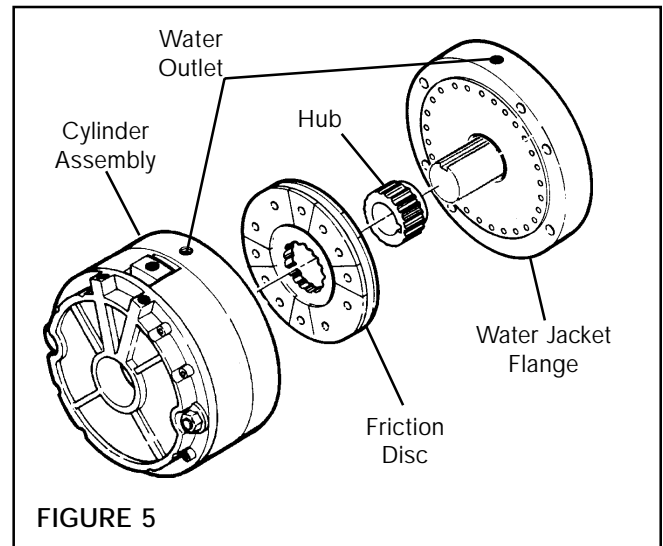

FIGURE 5
2. Slide Hub onto machine shaft until back of Hub is approximately 1.34" [34 mm] from machine mounting surface (See Fig. 5).
5. Slide Water Jacket Flange over Hub and machine shaft (See Fig. 5).
6. Position Friction Disc on Hub (See Fig. 5).
7. Slide Cylinder Assembly into position, aligning holes in Cylinder Assembly with holes in Water Jacket and machine mounting surface.(See Fig. 5).